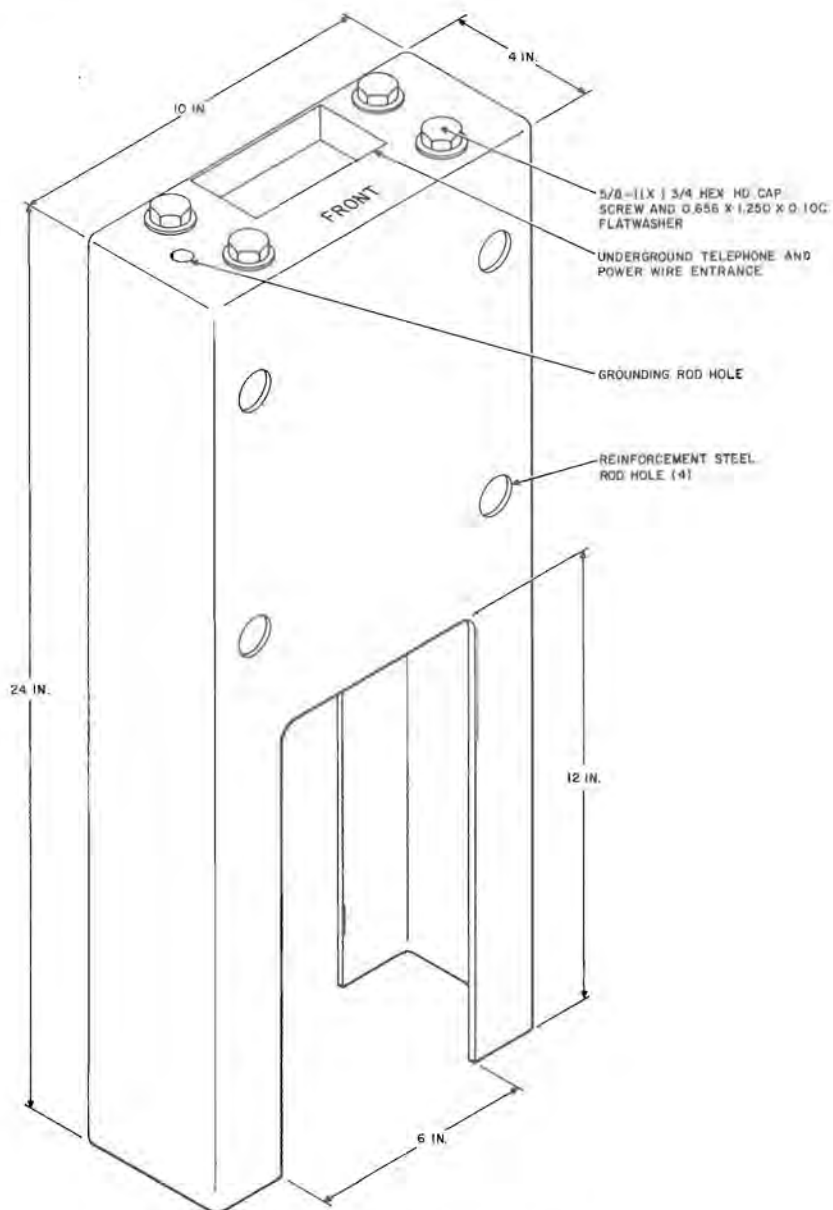

Fig. 3—KS-20842, List 52 Buried Base
2.12 *List 52 buried base* (Fig. 3) is 10 inches wide, 4 inches deep, and 24 inches long. The base is normally embedded full length in concrete with the top flush with the surface. The base top provides four threaded holes for use when mounting the post. Holes are provided through the base for four reinforcement rods which add strength and stability when installed.